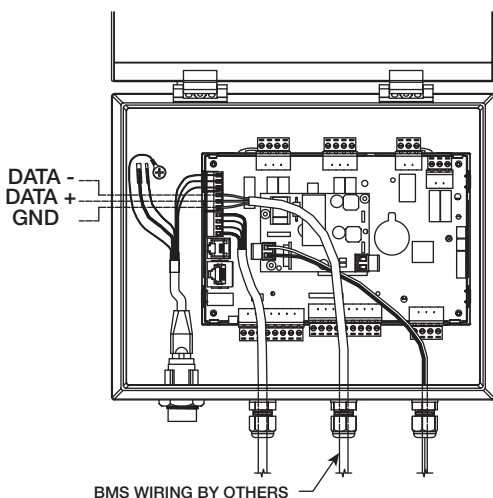

Figure 1
6. If BACnet MSTP communication to a building management system (BMS) is required, route an RS-485 communication cable (provided by others) from the BMS to the control panel through the unused cable gland on the exterior of the control panel enclosure. Connect the RS-485 communication cable to the BACnet terminal block on the control panel circuit board, as shown in Figure 1.